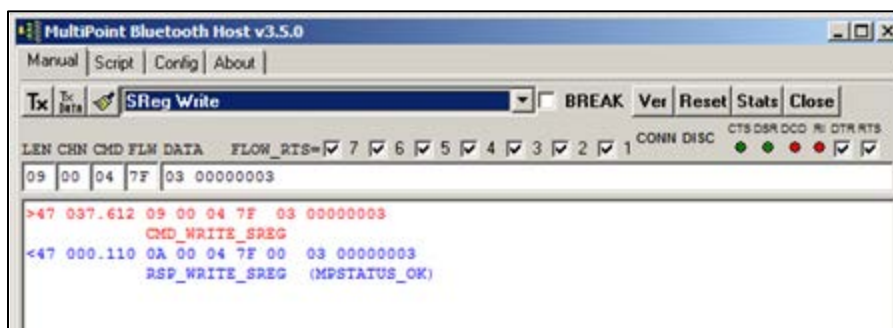

Figure 43: Change the S Register
1. Change the S Register (0x03) to 0x03 (Figure 43).